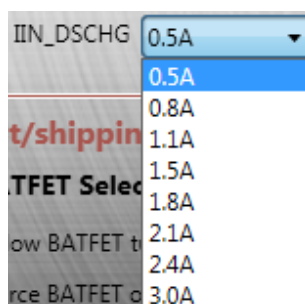

Figure 23: OTG Current Limit Setting
6. Set the OTG current limit (see Figure 23). Its range is 0.5A to 3.0A, and the default value is 0.5A.